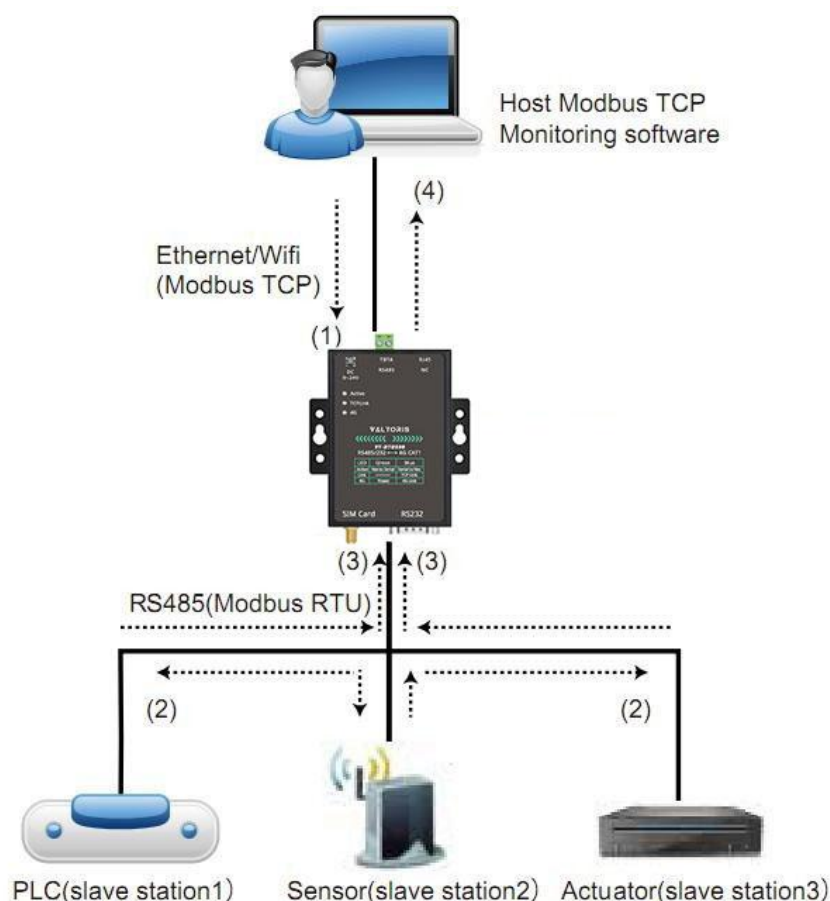

Figure 34 Storage Modbus Gateway
As shown in Figure 34: The direction of ordinary Modbus TCP data flow is (1) → (2) → (3) → (4). That is, the Modbus TCP command is first converted into the corresponding command of Modbus RTU, and then the device responds to the Modbus RTU command to the Modbus gateway, and then the Modbus gateway converts it into Modbus TCP again and sends it to the monitoring host computer.